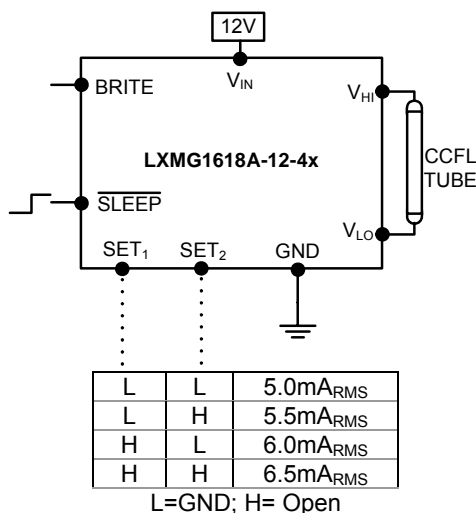

Figure 2 – Max Output Current
- Use the SET₁ and SET₂ (see Figure 2) inputs to select the desired maximum output current. Using these two pins in combination allows the inverter to match a wide variety of panels from different manufacturers. Generally the best lamp lifetime correlates with driving the CCFL at the manufacturer's nominal current setting. However the SET₁ and SET₂ inputs allow the user the flexibility to adjust the current to the maximum allowable output current to increase panel brightness at the expense of some reduced lamp life.